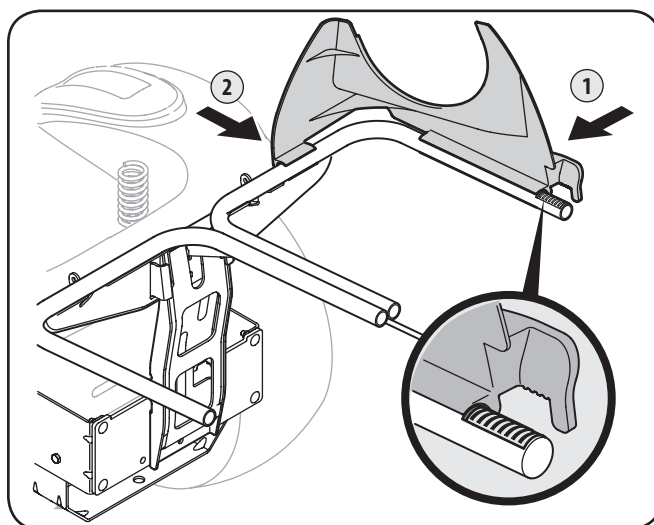

Figure 4-12
1. Snap the plastic upper chute support in place by first clipping the side portion onto the bagger support rail with the edge of the snap feature aligned with the red line, as shown in Figure 4-12.
2. Snap the front side of the chute support to the rail, as shown in 2 of Figure 4-12.